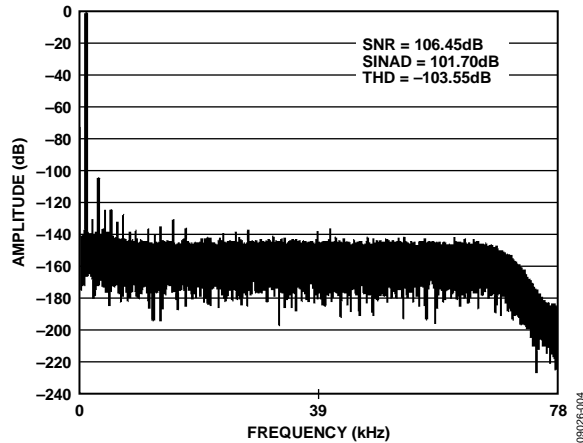

Figure 4. FFT Output for 1 kHz Input Signal with Sampling Rate of 156 kSPS, 40 MHz MCLK, 100 μF Reference Star Point Capacitor. 131,072 Samples.
The AD7765 daisy chain circuit allows the user to simultaneously sample up to four channels at 156 kSPS. The speed of the output data rate can be changed by either reducing the MCLK frequency or changing the decimation rate of the AD7765. It is advised that the ADCs be re-synchronized following a change in the decimation rate. Figure 4 show the FFT from the output of AD7765 (3) running at the maximum sampling rate of 156 kSPS operating from an MCLK frequency of 40 MHz. A -0.5 dBFS input is applied to the AD7765 differential amplifier inputs with a 1 kHz input frequency.